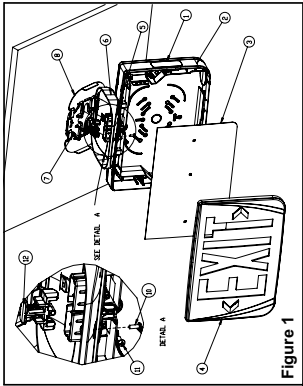

Figure 1
- a. Canopy required. Attach the spider plate to electrical box with the junction box screws. Remove appropriate hole plug. Feed AC supply leads through side or top opening and then through canopy. Remove the canopy lock(12) (if supplied). Snap canopy on top or side of frame (See Fig. 3). Re-install the canopy lock (if supplied). Screw canopy to frame(11). In the case where a canopy lock is supplied, you may refrain from screwing the canopy to the frame. However, for applications having a greater risk of exposure to abnormal impacts, we suggest to always use the canopy housing screw(11) (fig. 1 and 3). Make the proper wire connections. The "Quick-install" canopy is equipped with ribs allowing you to hang the unit on the spider plate to facilitate wiring (See fig.4). Feed the excess wire into the junction